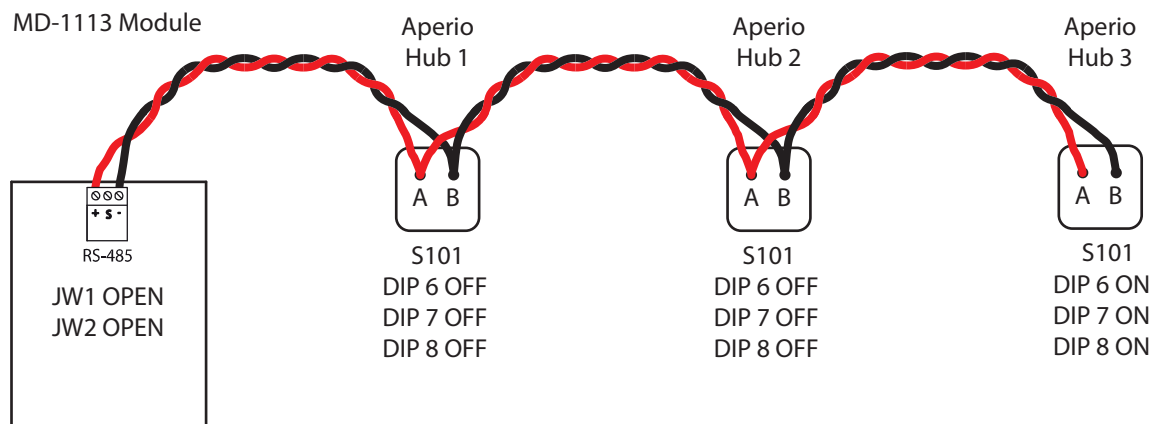

Figure 21. A network with one end terminated by the MD-1113 and the other end terminated by an Aperio hub
Figures 21 and 22 show two examples of networks with three Aperio hubs. In Figure 21, there is an Aperio hub on one end of the network and the MD-1113 is on the other end of the network. Note that in this configuration, the Aperio hub at the end of the bus is terminated (DIP switch 8 is on) and that jumpers JW1 and JW2 on the MD-1113 are open.
- C. The Aperio hubs must be connected in a daisy chain configuration (see Figures 21 and 22).
- F. Aperio hubs located on the ends of the RS-485 network must be terminated. To terminate an Aperio hub, set DIP switch 8 (TERM) on S101 to ON (see Figures 21 and 22).
- G. One of the Aperio hubs must have DIP switches 6 (DOWN) and 7 (UP) set to ON (see Figures 21 and 22).